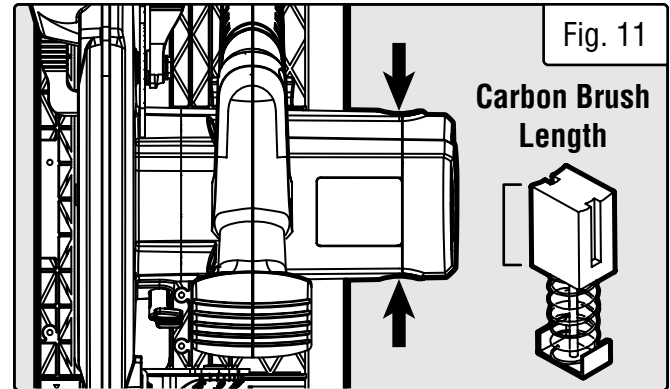

Fig. 11
1. Unplug the saw. To access the carbon brushes, remove the carbon brush covers (Fig. 11) on both sides of the motor housing with a flat-head screwdriver (not included).
3. Measure the length of the brushes (Fig. 11). Install the new set of carbon brushes if either carbon brush length is worn down to $\frac{3}{16}$ " or less. Reinstall the old carbon brushes (in their original orientation) if your brushes are not worn down to $\frac{3}{16}$ " or less. Both carbon brushes should be replaced at the same time.